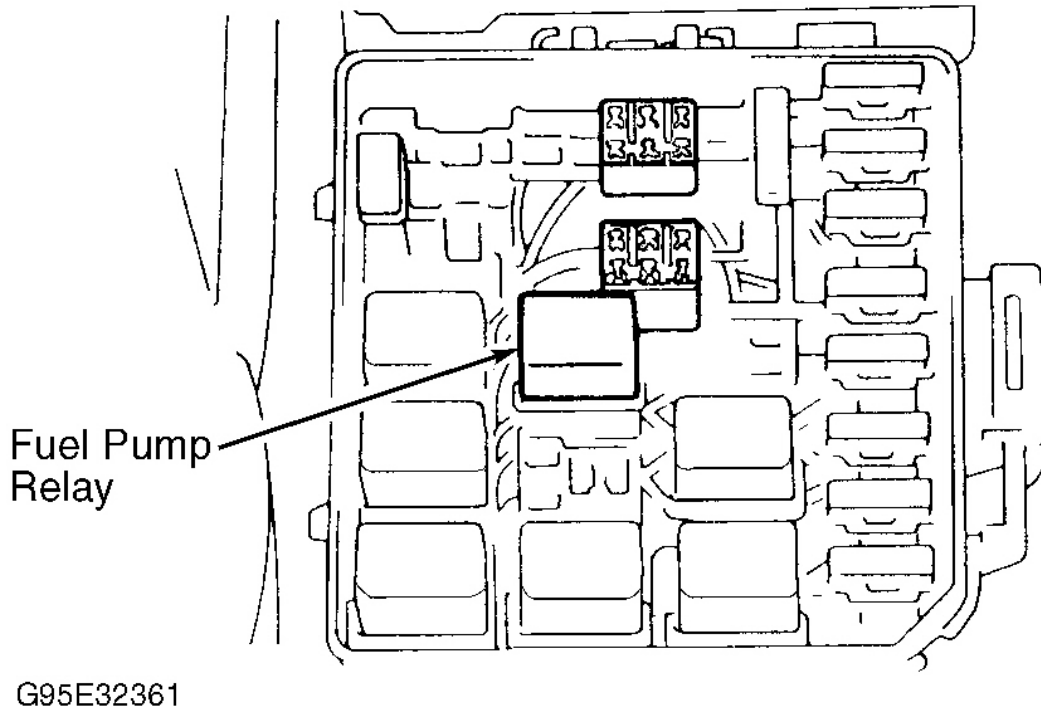

Fig. 2: Locating Fuel Pump Relay (Esteem)
2. On Esteem, disconnect fuel pump relay connector. Fuel pump relay is located in relay box, near battery. See **Fig. 2**.